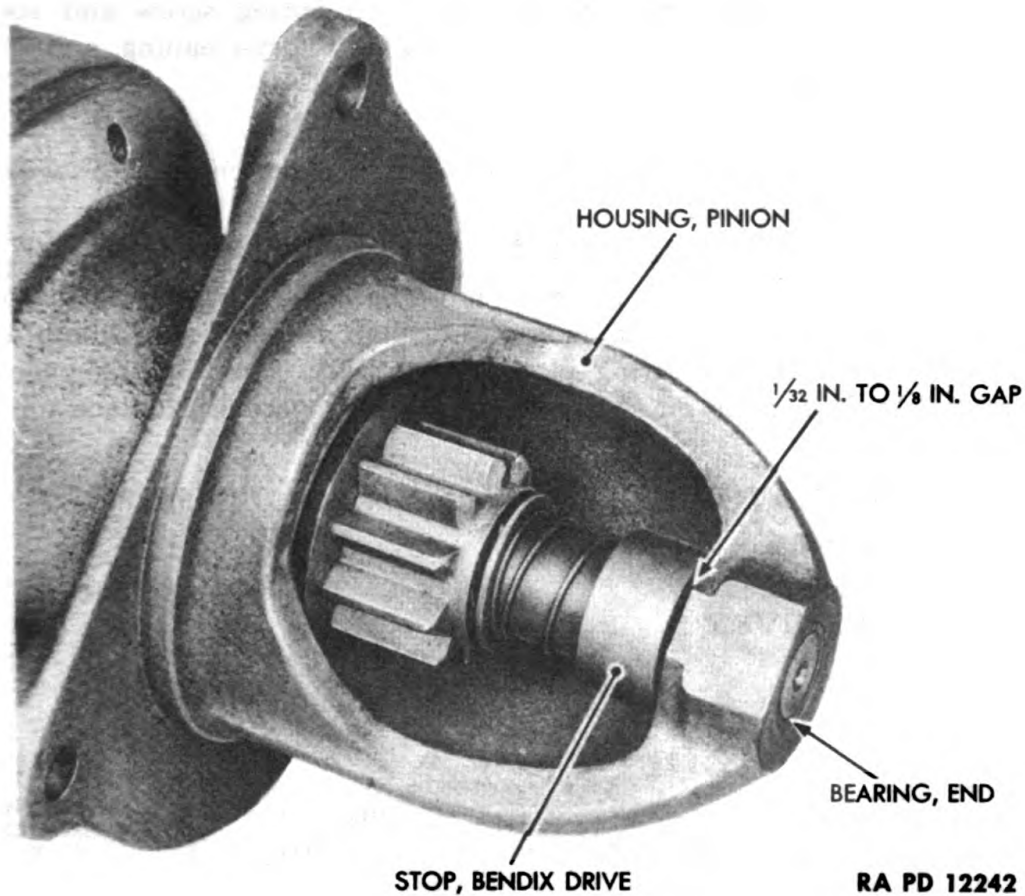

Figure 174—Pinion Housing
(1) Clean pinion housing in SOLVENT, dry-cleaning, and dry with compressed air.
(2) Examine pinion housing for fractures. Replace if broken.
(3) Fit armature shaft into the end bearing and check side play (fig. 174). If side play is more than barely perceptible, drive old bearing out and press in a new one. Press bearing flush with outer ends of bore in housing (fig. 174).